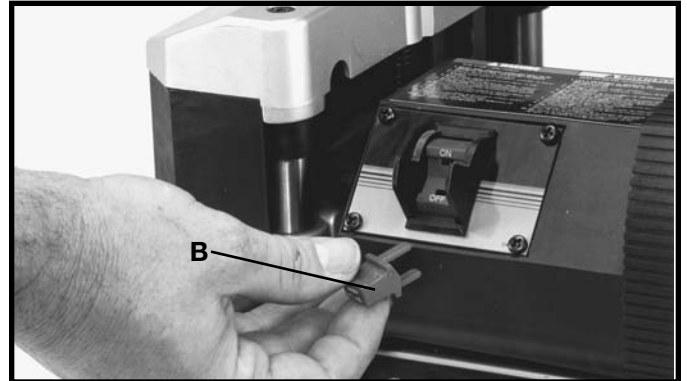

Fig. 15
When the tool is not in use, the switch should be locked in the “OFF” position to prevent unauthorized use. This can be done by grasping the switch toggle (B) Fig. 15, and pulling it out of the switch, as shown. With the switch toggle removed, the switch will not operate. However, should the switch toggle be removed while the machine is running, the switch can be turned “OFF” once, but cannot be restarted without inserting the switch toggle.